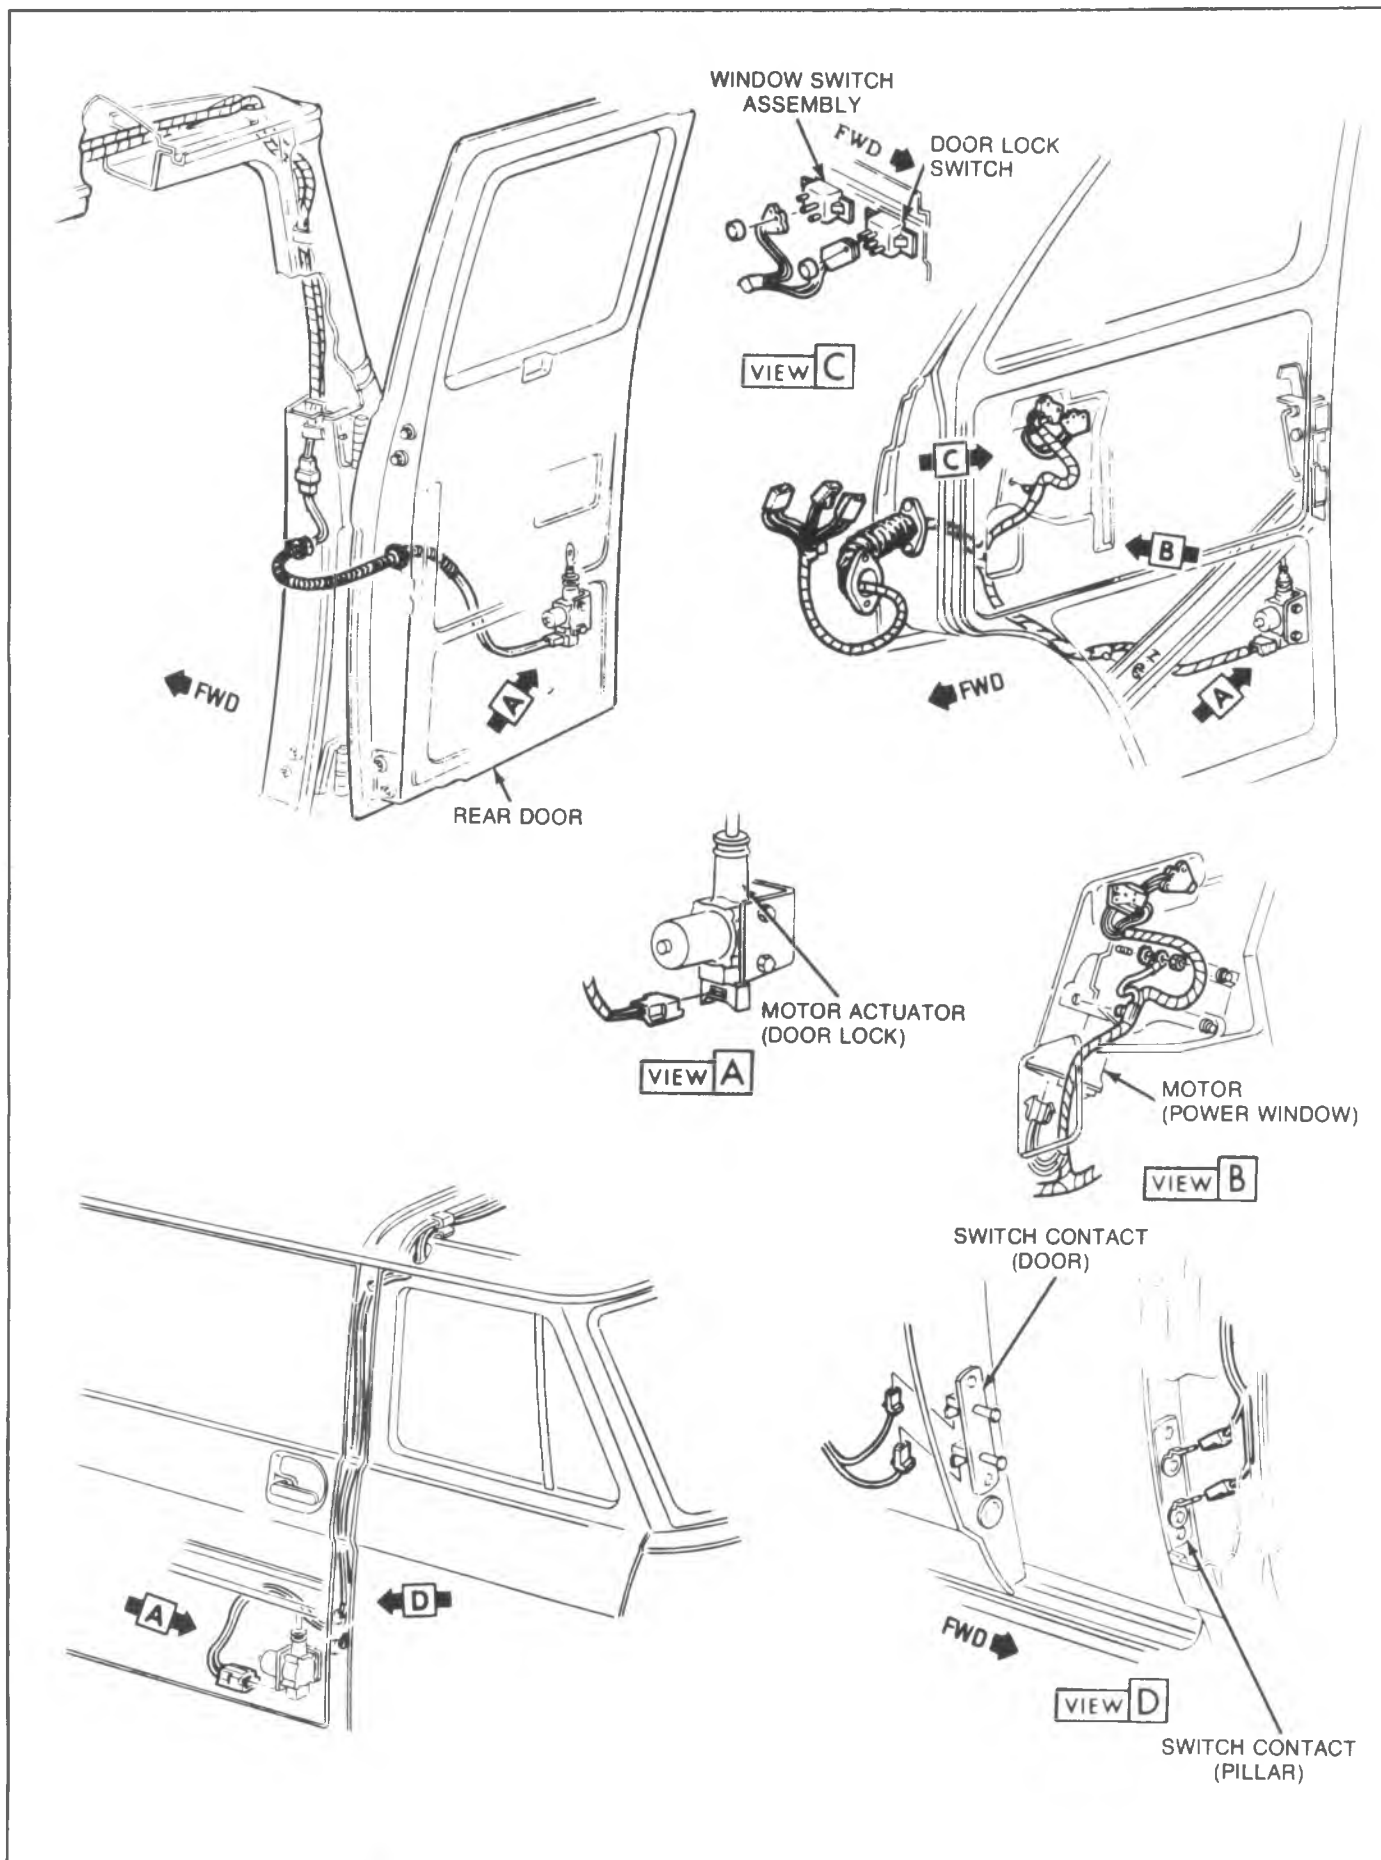

Fig. 2D-120—Power Door Lock Actuators, Power Window Motor, Wiring and Switches
LOCK CYLINDER ASSEMBLY--FIG. 2D-119
The side door can be adjusted for alignment and/or clearance in the body opening and for proper latching. When properly positioned in the body opening, the door should have equal clearances around its perimeter. Adjustments for door positioning and proper latching can be made at the locations shown in figure 2D-121.
Up and down adjustments are provided by means of slotted holes located at the upper front roller, view B of figure 2D-121; at the lower front catch-and-roller, view D; and at the upper rear hinge-and-roller assembly, view A. To reposition the door up or down:
2. Remove upper rear hinge cover, shown in figure 2D-122.